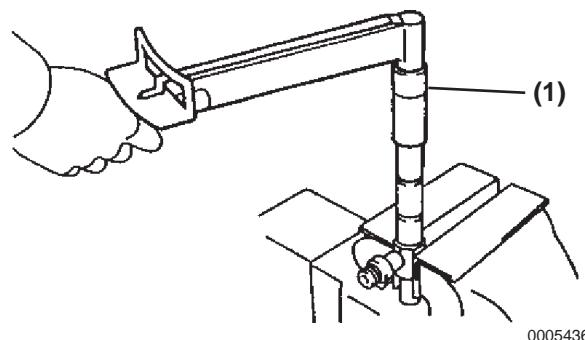

Figure 6-38
2. Tighten the nozzle holder retaining nut using a 14 mm socket (**Figure 6-38, (1)**) torque to: 300 kgf-cm, 29.42 N·m (22 lb·ft). **NOTICE: NEVER tighten excessively. Otherwise, deformation, adhesion or other defects may occur.**